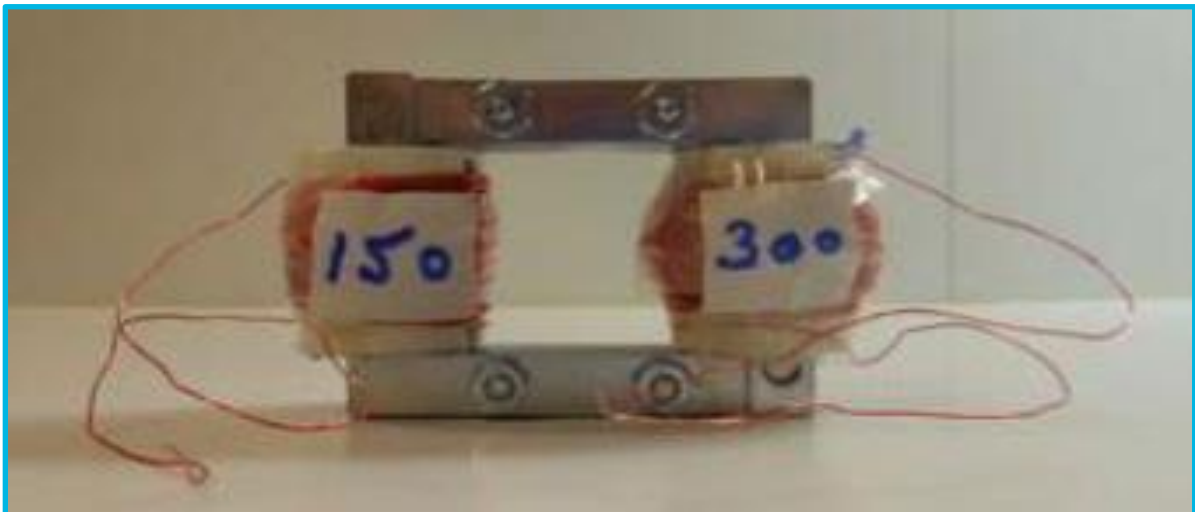

Fig. 22
Once the “Winding teams” have finished two coils (one of 150 turns and one of 300 turns) they should drop them onto the two legs of the core and complete the core by inserting the top laminations. Figure 22 shows our assembled single phase demo transformer.
1. Refer to the note about leakage flux above and try an experiment with the hands on demonstration in Figure 22. Remove the top yoke and measure the output voltage you get.